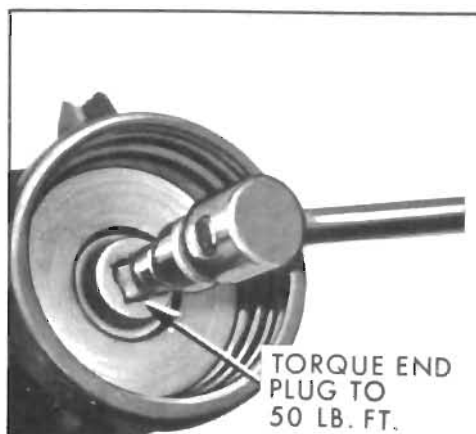

Figure 8-59—Torquing Rack-Piston Nut End Plug
7. Install rack-piston end plug using 1/2 square drive. Torque plug to 50 ft. lbs. See Figure 8-59.